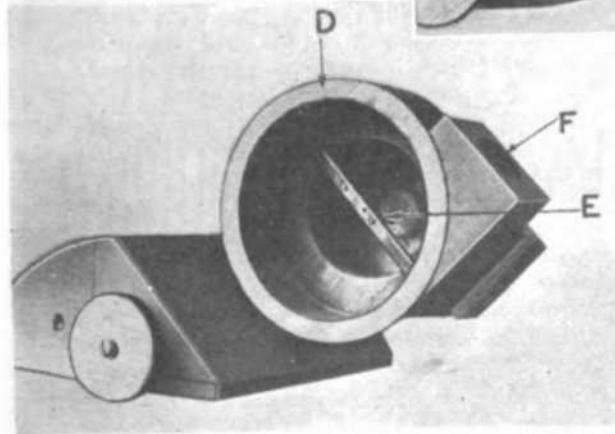

Fig. 4
The fan is now set on the spindle so that the end of the hub is $\frac{1}{4}$ in. from one end of the shaft proper, and is secured in place with an 8-32 iron machine screw, driven through both hub and shaft, and locked with a nut on the farther side. Fig. 4 shows the construction of the fan box from which the fan has been removed. The circular shell (D) is made from a block of pine, 2 in. thick and 12 in. square, both sides of which have been planed. An 8-in. circle is marked on one side and a circular block of that size is cut out with a band saw. The block is then screwed to the face plate of a wood lathe, and the outer circumference turned down to $7\frac{1}{2}$ in., while the centre of the block is cut out to 6 in. inside diameter, making the sides of the shell $\frac{3}{4}$ in. thick by 2 in. deep.